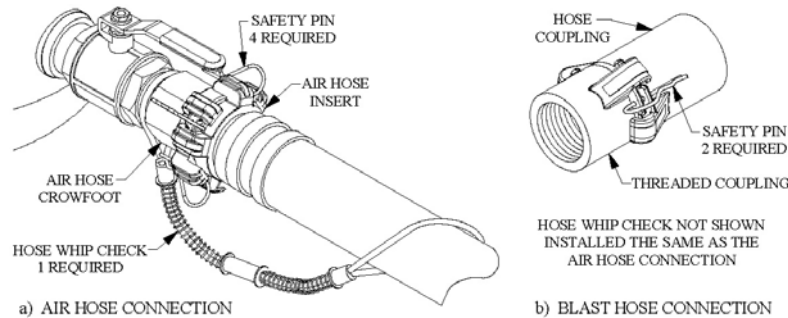

Figure 8.2 – Hose Connection Disconnect Protection
- 8.7. **Blast and Air Hose Couplings:** All air hose, blast hose, and threaded couplings have pin holes that align when connected. To protect against accidental hose disconnections safety pins must be installed through these holes. Each hose connection must also include a hose whip check that will hold the hose if there is an accidental disconnection. Connect one loop to each side of the connection and stretch out as shown in Figure 8.2 below. Check hose connections daily and replace missing or damaged pins and whip checks.